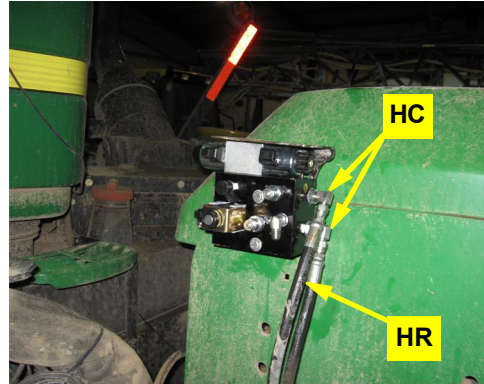

Figure 5b: Steering output hoses connected at steering block
- b. Connect the steering hoses **HR** to the fittings **HC** in the **A** and **B** ports on the hydraulic steering block (Figure 5b).